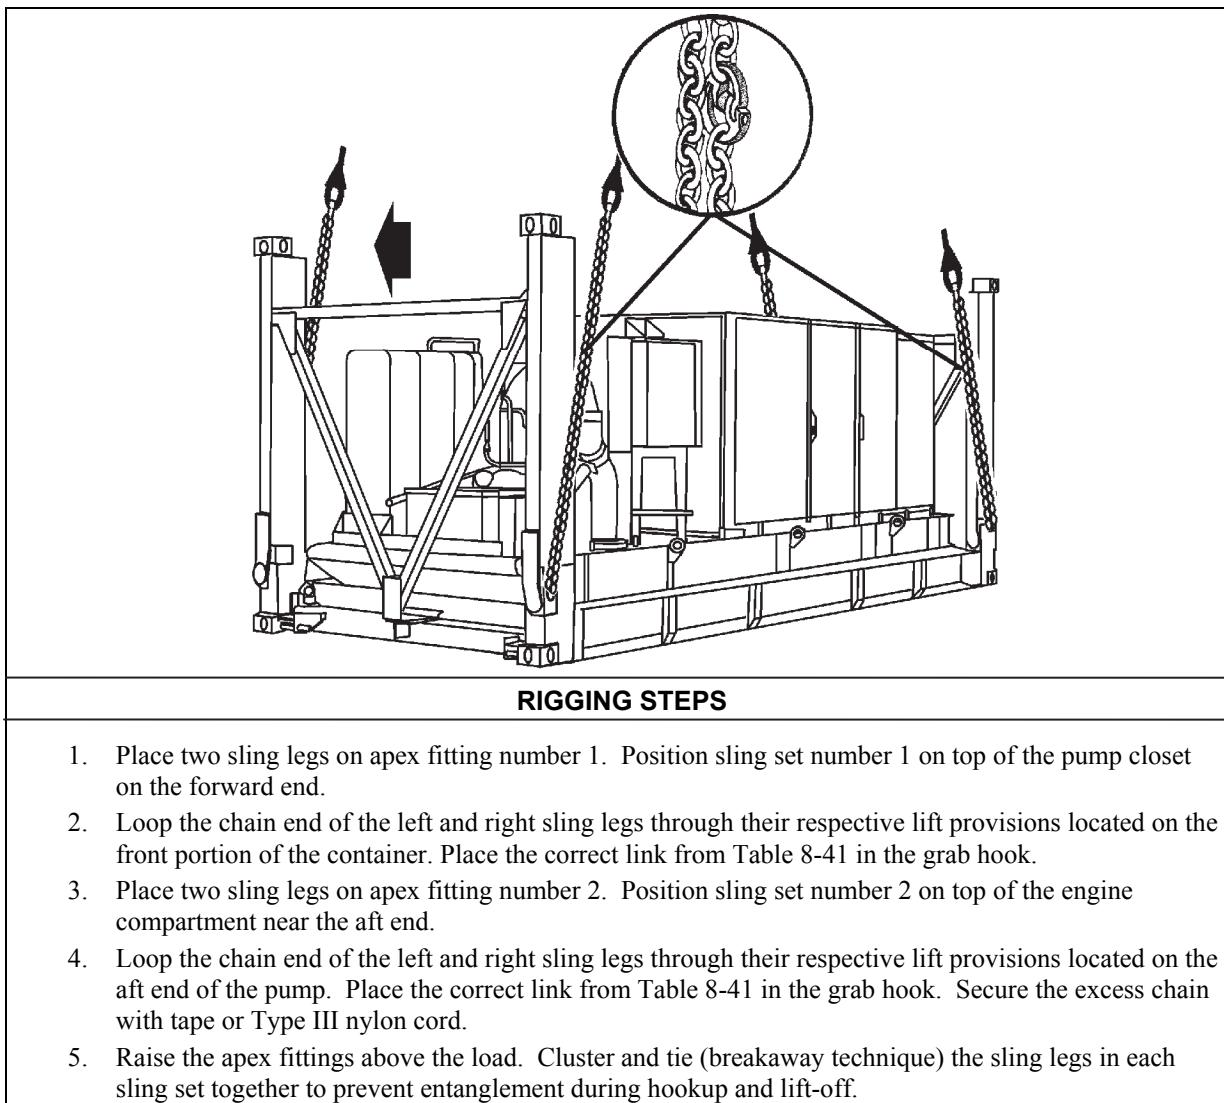

Figure 8-41. Inland Petroleum Distribution System (IPDS), Mainline Pump on 20-Foot Flatrack
- **Rigging.** Rig the load according to the steps in Figure 8-41.